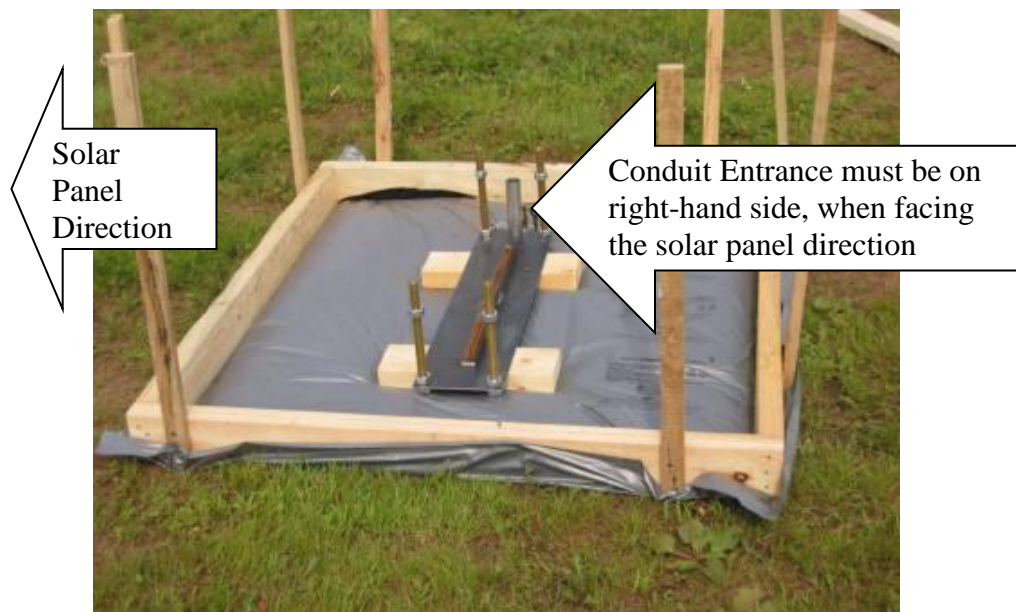

Figure 3. Mounting Base Layout
Refer to Figure 3 to guide construction of the SPS mounting base. Perform the following steps:
2. Orient the anchor assembly as shown in Figure 3.
4. Construct concrete forms as shown in Figure 3. The concrete base should be a minimum of 40 inches square, and at least 3 ½ inches thick.